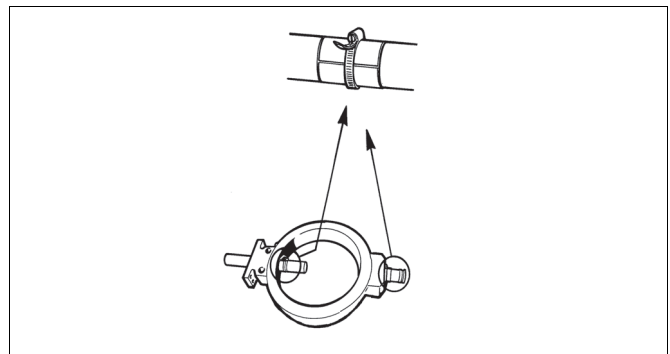

Fig. 16 Mounting the metal bearings
- **High temperature-construction:** Mount the bearing into the shaft. Spray a thin layer of dry lubricating fluid, e.g. Molykote 321R or equivalent, into the inside surface of the bushing and the shaft bearing groove. Press the bushing with a tightening ring into the shaft bearing groove and fit the shaft with the bearings carefully into the body through the tightening ring (see Fig. 16).